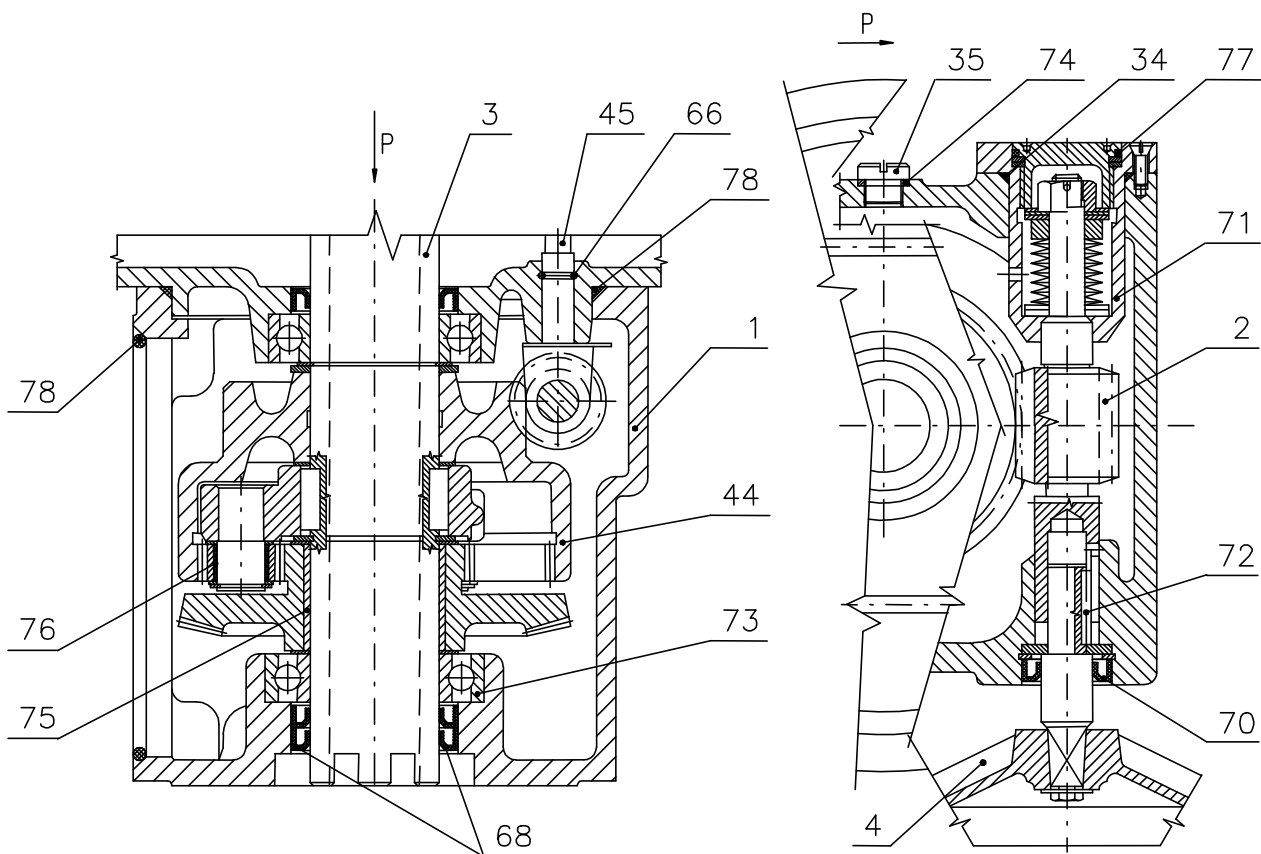
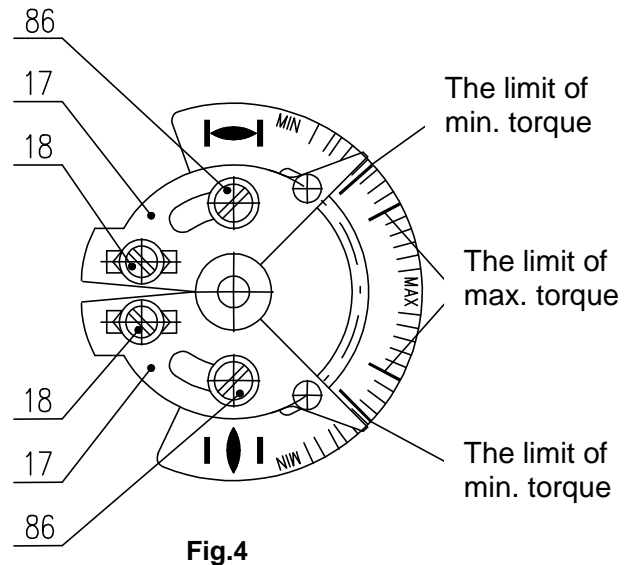

Fig.2
Fig.4
**Modul M 3 – force transmission with manual control (Fig. 2) Ex c IIC T4 a T5 Gb**
**Torque unit (Fig. 4 and 5)** is composed of three functional sub-units:
- torque disk (Fig. 4)
*Torque disk (Fig. 4)* is assembled on torque shaft (45) discharged from power transmission (Fig.2). Steer angle of torque disk is proportional to torque moment of output shaft (3) of electric actuator. Its magnitude can be adjusted by segments (17) and by shifting of backstops (18). Achieved torque moment value is from torque disk transferred on torque unit (9) by means of torque lever (42).